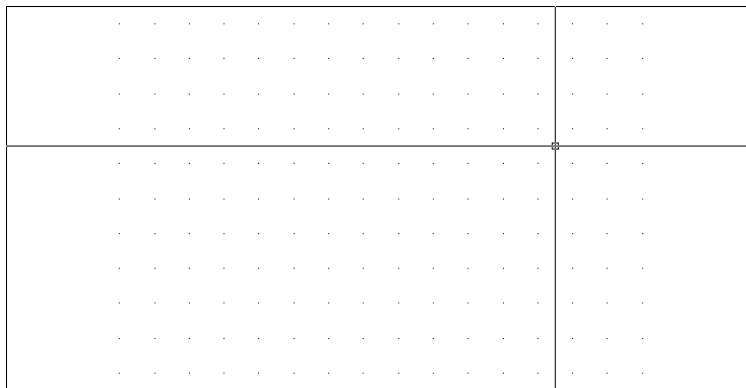

FIGURE 3.8: The new 60' \times 40' grid with 12" dot spacing
5. Click OK. The new 4' grid is now visible (see Figure 3.8). Move the cursor around on the grid—be sure Snap is on. (Check the Snap button on the status bar. It will be pressed when Snap is on.) Notice the coordinate readout. It is displaying coordinates to the nearest foot to conform to the new 12" snap spacing. The cursor stops at three snap points between each grid dot.